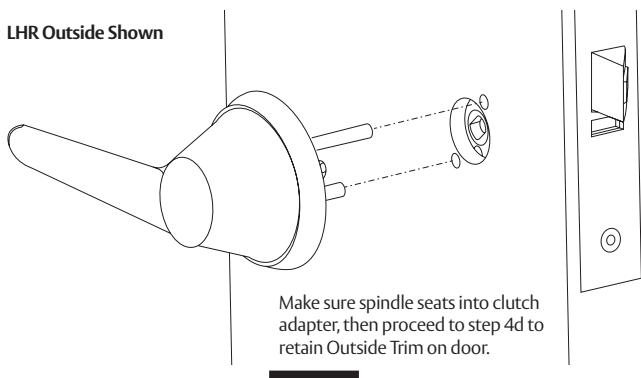

Figure 23
- Once assembled, spindle orientation should be as shown. (Figure 23)